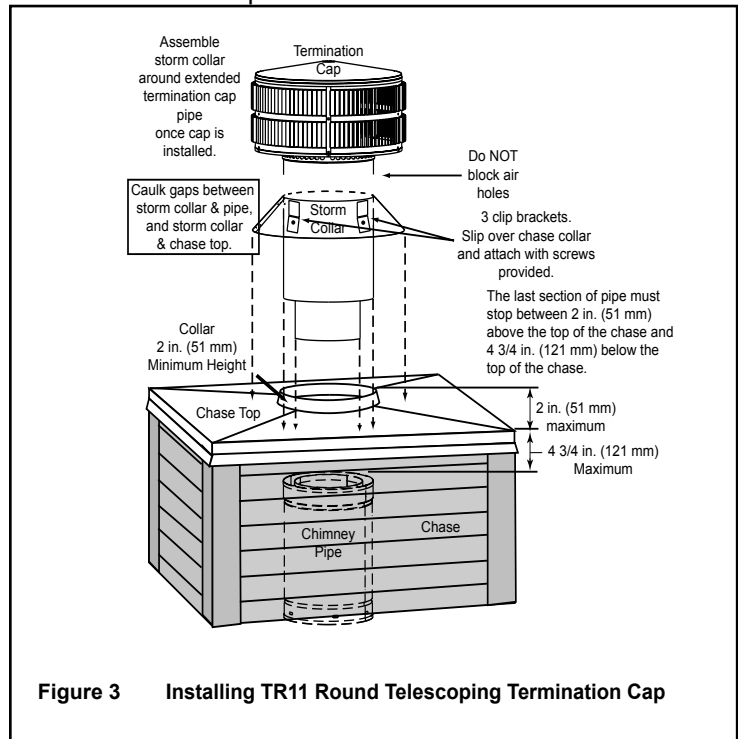

Figure 3 Installing TR11 Round Telescoping Termination Cap
- The uppermost chimney section must terminate no more than 4-3/4 in. (121 mm) below the chase top. See Figure 3 for additional details.